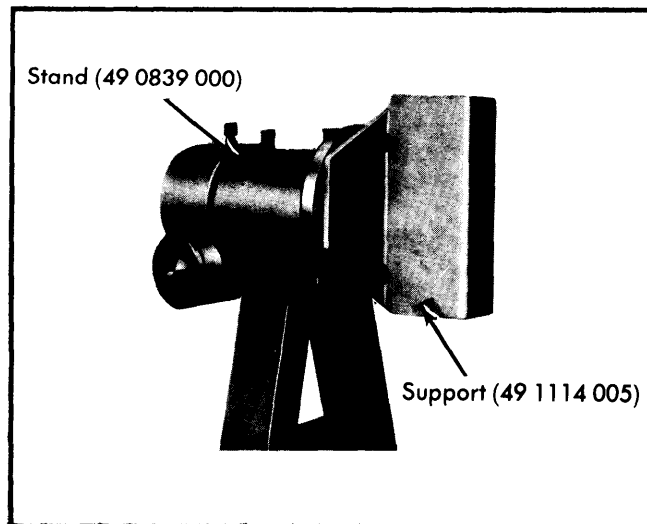

Fig. 2 Engine Stand & Hanger-Support
**NOTE** — To simplify engine disassembly, manufacturer recommends use of a special engine stand (49 0839 000 or 49 0107 680A) and special hanger (49 1114 005) for supporting the front housing. See Fig. 2 Also note that this front housing support may be used on previous engines (where rear housing support units were previously used).